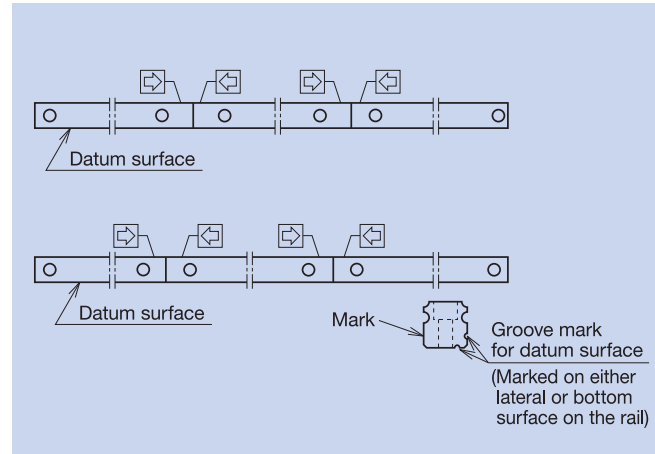

Fig. 11
- The rails with butting specification are marked with an arrow on the opposite side of the mounting datum surface. Use the arrows for assembly order and direction of the rail (Fig. 11).